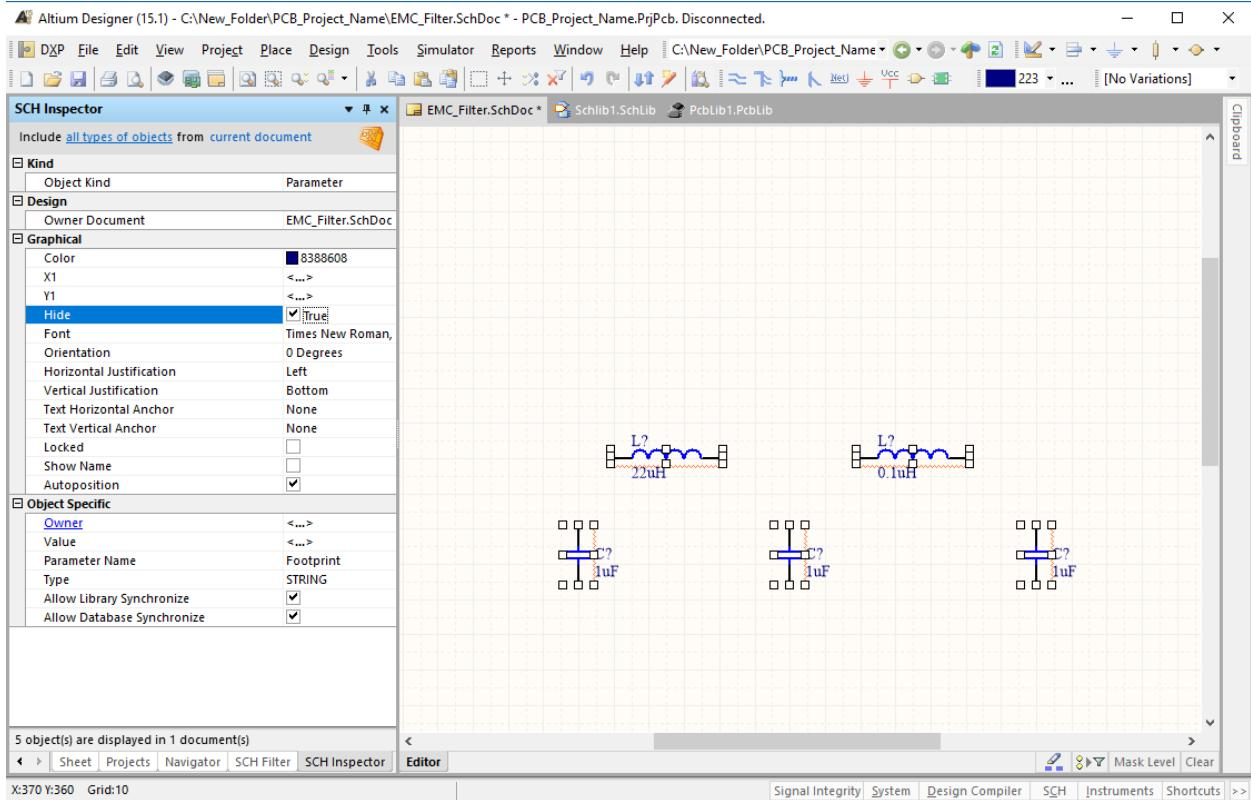

Figure 52: Altium SCH Inspector parameter Footprint.
31. Change the Hide property from True to False, which shows the footprint of each component in the schematic as shown in Figure 52.